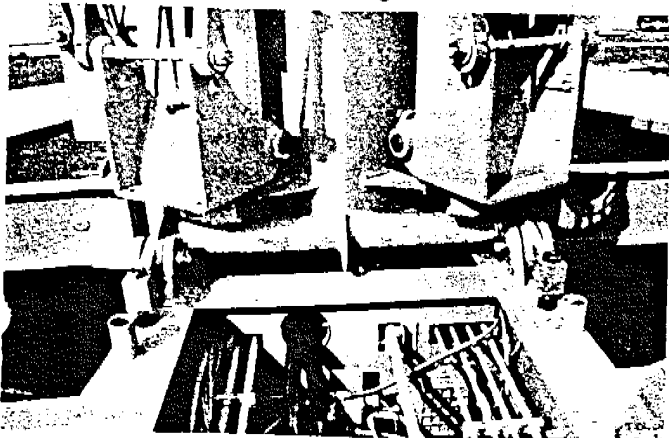

Fig. 24
- CAUTION: Remove the 3 lock pins stored in the mounting ears at base of the tower before raising the tower. (2 pins are located at the back and 1 pin is at the front of the tower.) (Refer to Figs. 24 & 25)